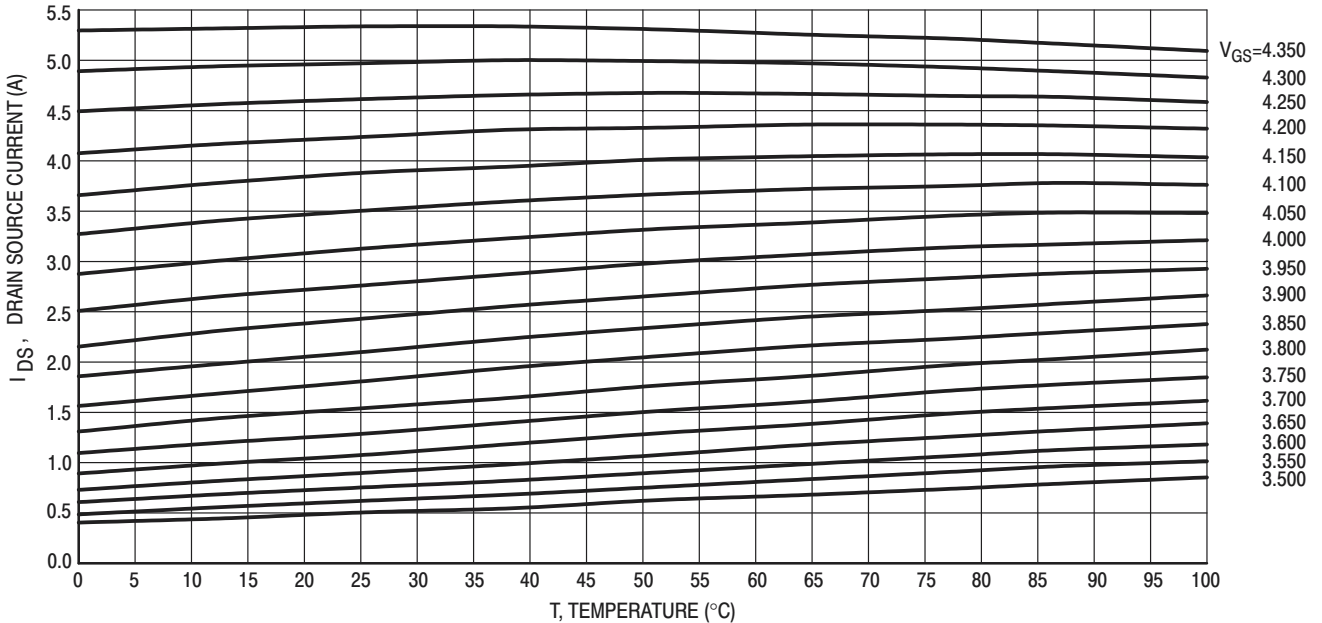
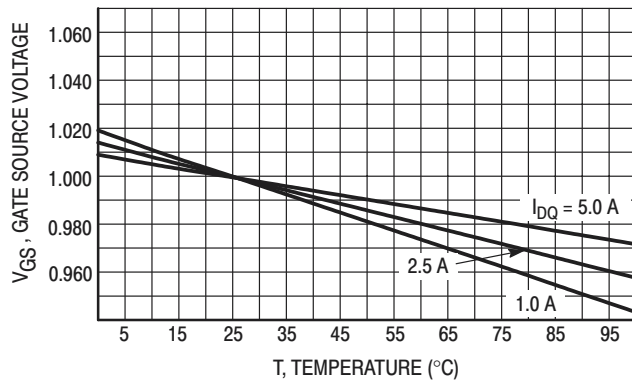

Figure 3. MRF9080 Simulated Drain Source Current versus Temperature versus Voltage
Figure 4. Generic Plot of Gate Source Voltage (Normalized to 25°C) versus Temperature at Parametric Values of I_{DQ}
(I_{DS}), temperature (T) and gate source voltage (V_{GS}). See Figure 3.
The data gathered from the simulation shown in Figure 3 is useful. However, a more useful method of illustrating the temperature dependence of IV curves is illustrated in Figure 4.